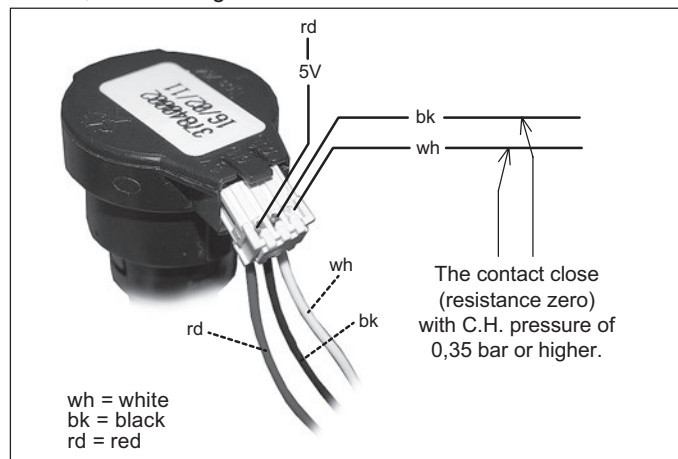

Figure 12.2
- 1 Measure the electrical resistance between the tabs "bk" and "wh" (Figure 12.2).